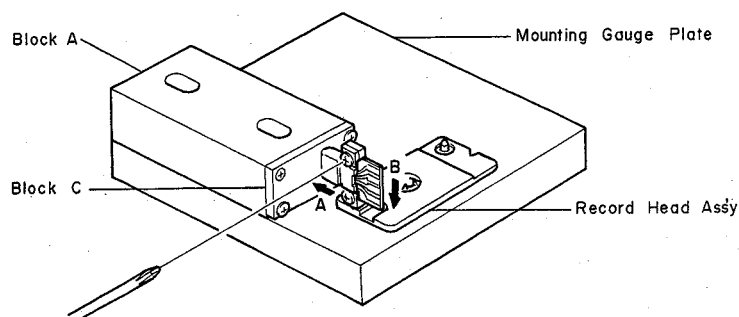

Fig. 5.15
- (5) Remove the Block B from the Mounting Gauge Plate.
- (6) As shown in the Fig. 5.15, mount the R-8L record head assembly onto the Mounting Gauge Plate, then check the location of the R-8L record head surface. (If record head contacts to the Block C, loosen 2 pcs. of screws that assembled record head and R-8L record head assembly, then place the R-8L record head assembly onto the Plate.)
- (7) Remove the R-8L record head assembly from the Mounting Gauge Plate.
- (8) Readjustment of Record Head Mounting Gauge M-9048 (DA09048A)
- (9) Remove the Block B from the Mounting Gauge Plate.
- (10) Mount the R-8L record head assembly onto the Mounting Gauge Plate.
- (11) As shown in the Fig. 5.15, loosen the R-8L record head with 2 pcs. of screws onto the record head plate. As the location of the Block A is secured by the item (8) - (c), push the record head to the directions A and B, then tighten 2 pcs. of screws.
- (12) Check to insure freedom from gap between the Block C and record head surface, then tighten the 2 pcs. of screws on the record head plate with lock tight paint.
- (13) Assemble the record head assembly to the head mount base assembly.
- (14) Assemble the head mount base assembly to the mechanism assembly.
- (15) Check the record head stroke.